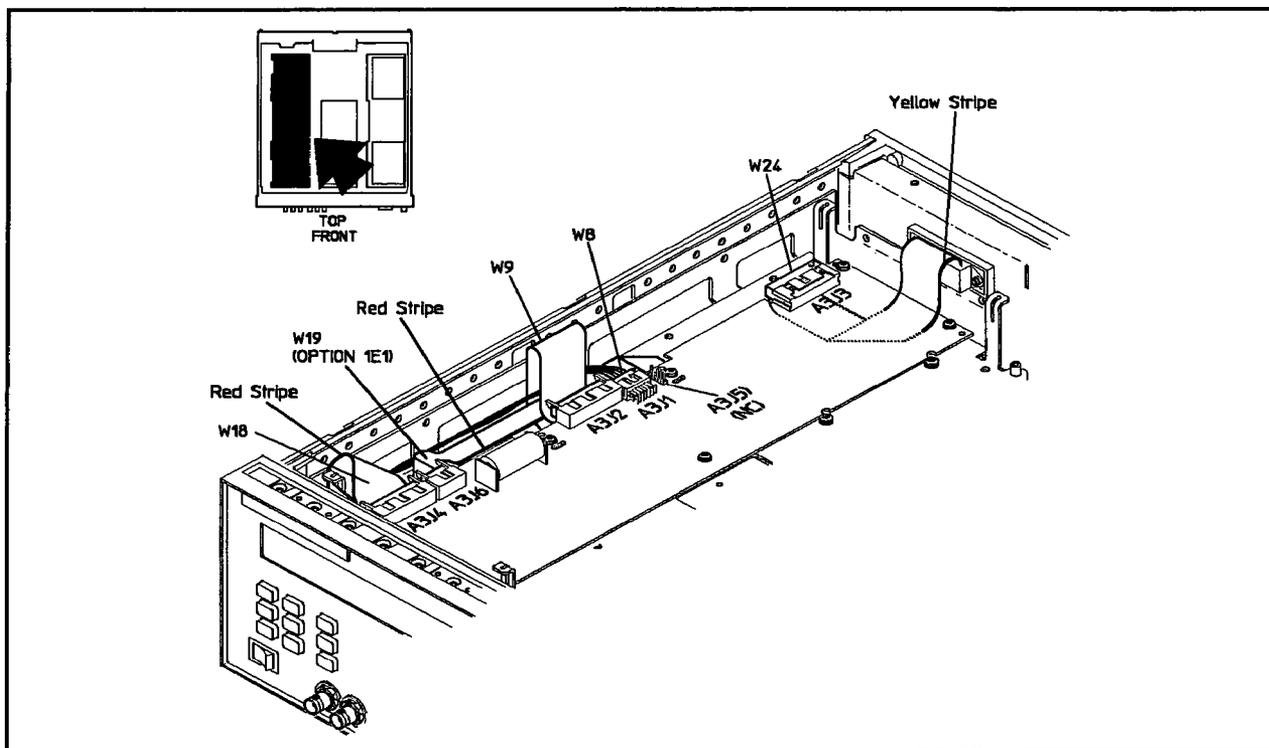

Figure 5-19. Microprocessor Board Assembly Cable Location
3. In the introduction to this chapter, refer to the procedure "Multi-wire Cables" and Figure 5-19. Then, disconnect the following cables:
- Be sure to route the HP-IB cable interface as shown in Figure 5-19.